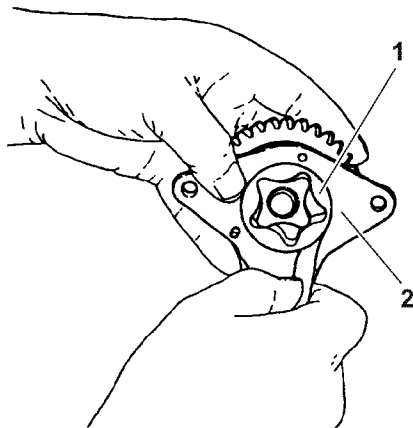

Figure 9-16
Inspect the outside diameter clearance of the outer rotor. To inspect this, insert a feeler gauge between the outer rotor (**Figure 9-16, (1)**) and the lubricating oil pump body (**Figure 9-16, (2)**).